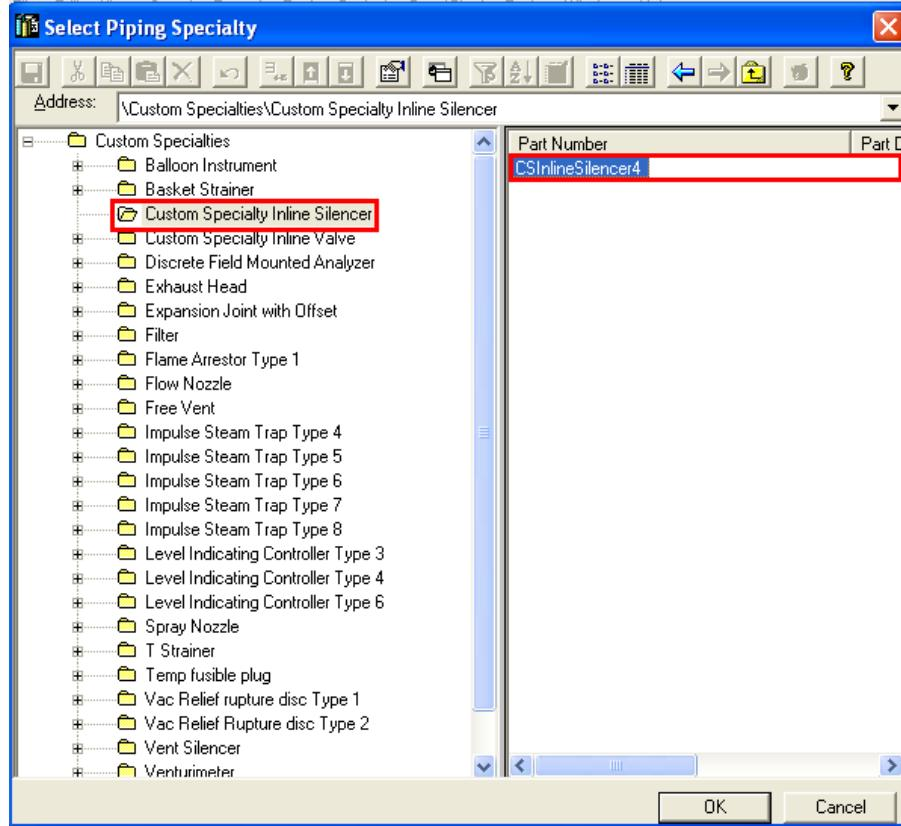

Figure 36: Select Piping Specialty Dialog Box
3. The **Select Pipe Specialty** dialog box displays the specialty items from the catalog. Expand **Custom Specialties > Custom Specialty Inline Silencer** and select the part **CSInlineSilencer4** as shown in Figure 36. Then click **OK**.